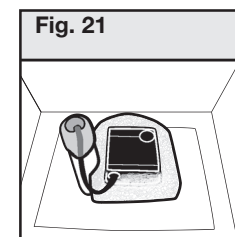

Fig. 21
- Fold the top of the rubber cap over the raised post to seal off the bowl (**Fig. 21**).